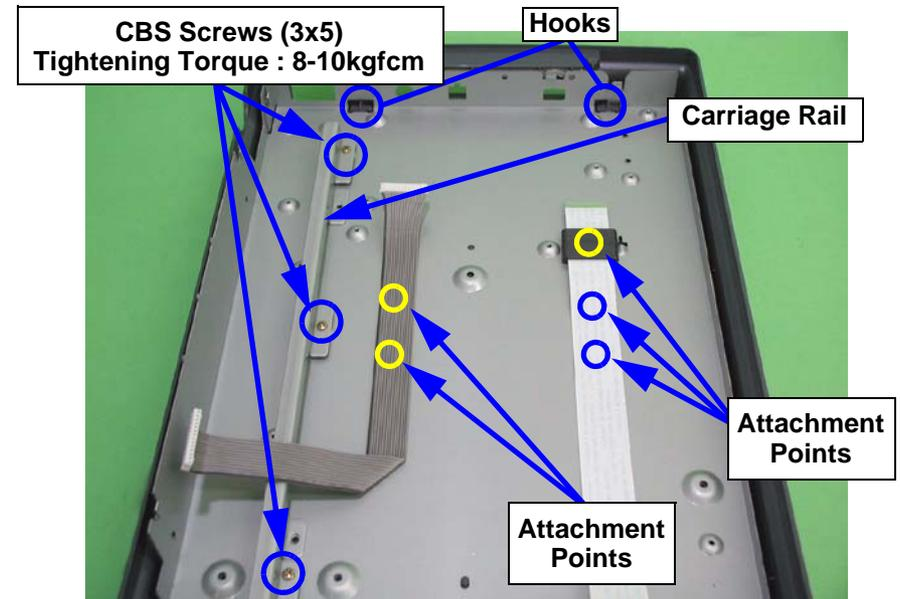

Figure 4-36. Base Frame Removal
- Attach the cable that connects the power supply circuit board and the main circuit board, the white FFC that connects the carriage unit and the main circuit board and the ferrite core to the base frame with double-sided tape. (See Figure 4-36)